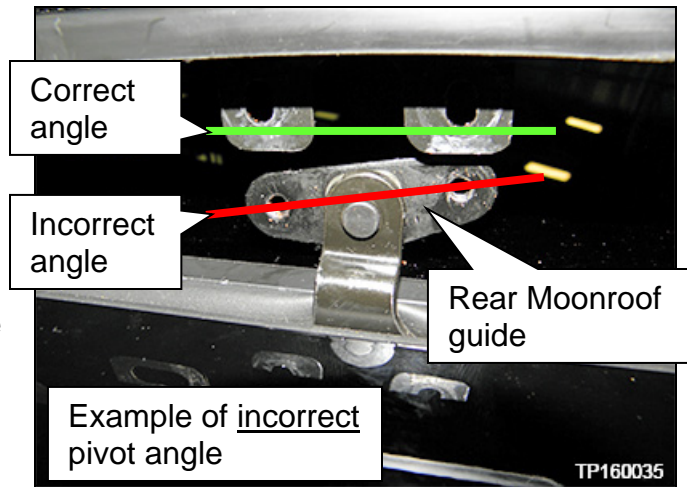

Figure 48
- Figure 48 is shown with screws removed to overemphasize incorrect pivot angle.